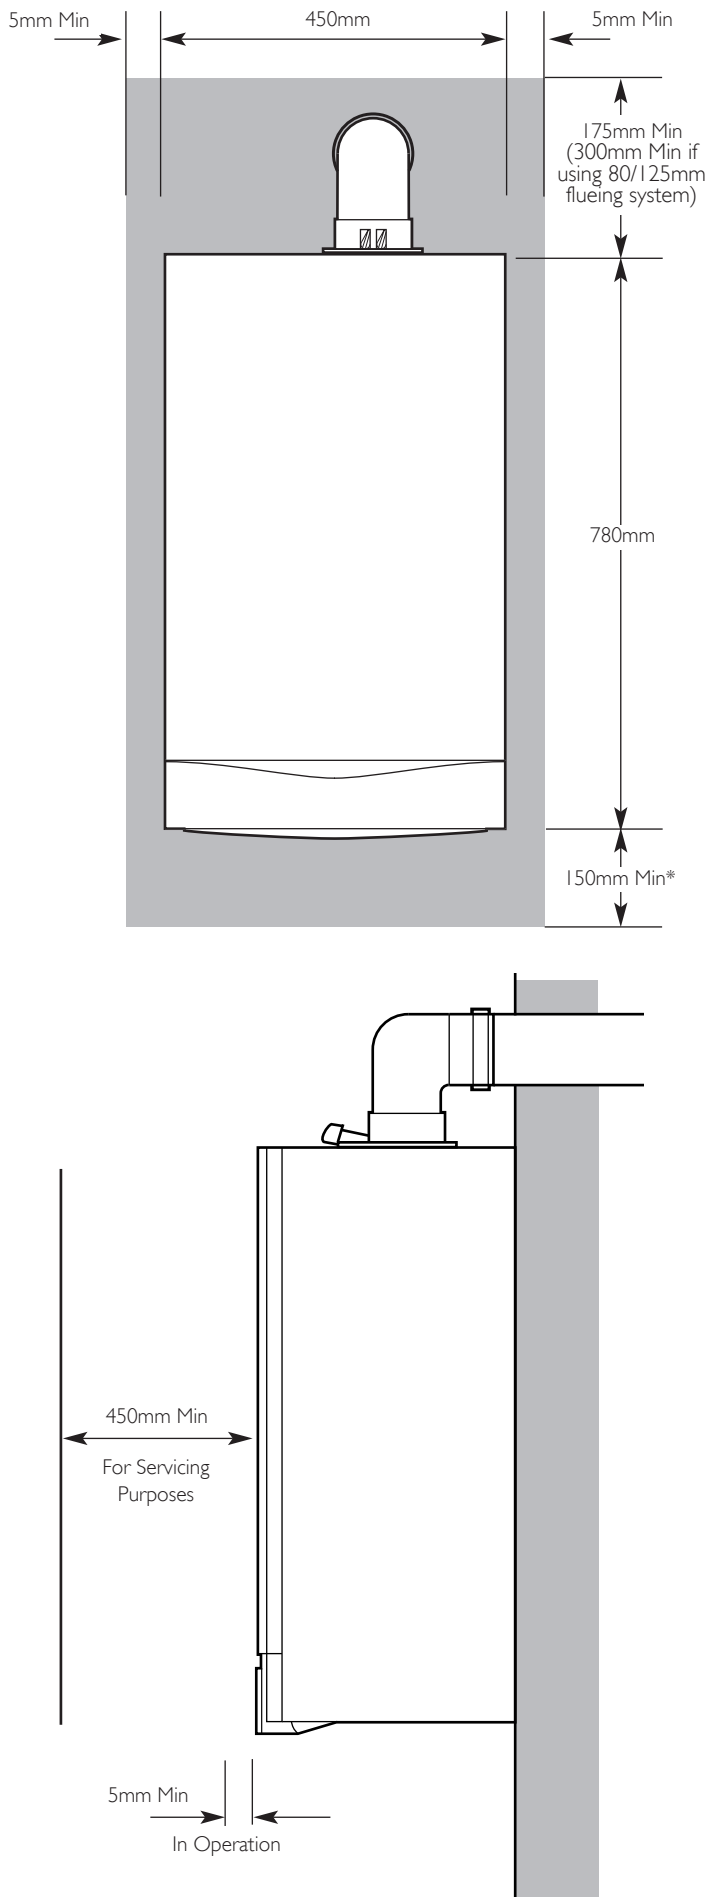

Fig. 4
6. Your boiler should have the following minimum clearances for Safety and Maintenance (Fig. 4):-